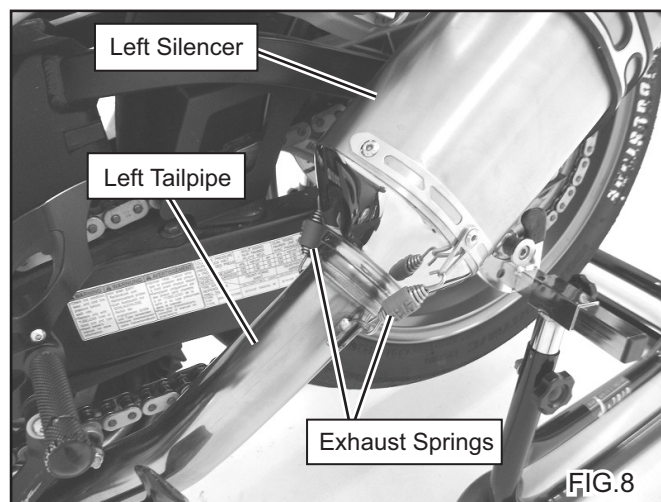

FIG.8
- 7) Put Left Silencer Assy on Left Tailpipe. And, install 2 Exhaust Springs on each spring hook using installing tool as same procedure as step 5) (See Fig. 8).